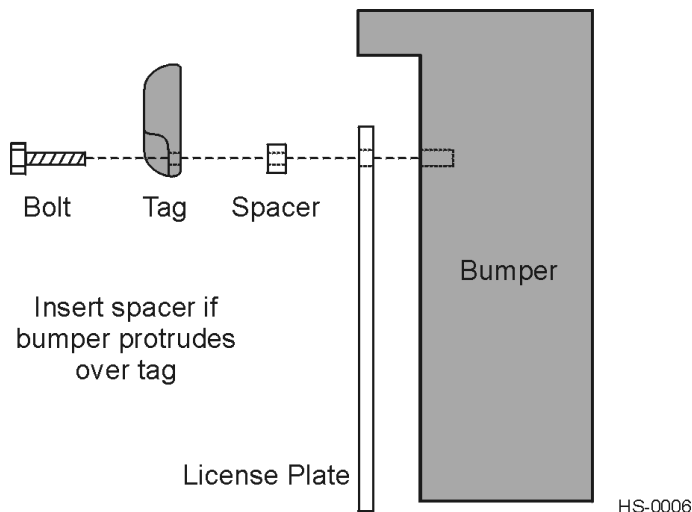

Figure 5 – Spacer Positioned Behind Tag
2. No material should overhang the tag. If overhang is more than ½ inch (1.27 cm), insert spacers or washers directly behind the tag so that the tag is clear of any overhanging obstruction. Secure the bolts with a nut (**Figure 5**).